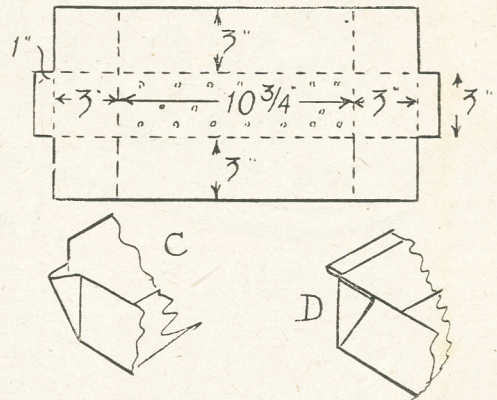

Fig. 3—Shape and corner joint of tray
For these trays some sheet zinc will be required, of fairly stout gauge. They are quite easily made, even by the amateur. For the ice tray, mark out on the zinc the pattern shown in Fig. 3. Bend up the sides and ends on the dotted lines, and press the corners together, as at (C).